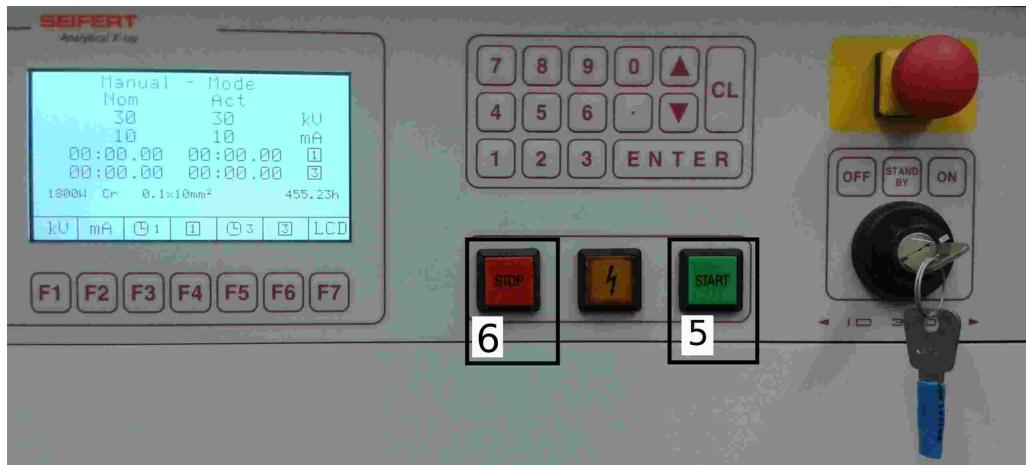

Figure 6: *Detailed picture of the control panel of the X-ray tube generator.*
- Warm up X-ray tube by selecting **F7**. Enter the required current and voltage settings by selecting **F2**, **F4 or F6**. One shouldn't have very small values for currents with large voltages as well as the other way around. Suggested values are 60 kV and 30 mA for warming up the tube. Press **Enter** when finished, then **START** (square green one, 5 on Figure 6). This will take up to 30 minutes depending on when the tube was operated the last time at this or a higher voltage. If the voltage is not set, check green interlock button (4) and the door, press **CL** to delete the error message.
- Press **STOP** (6 on Figure 6).